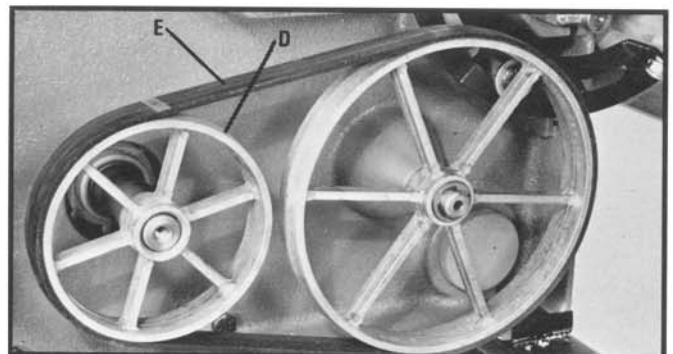

Fig. 27
4. Remove drive wheel (D) Fig. 27, and wood cutting drive belt (E).